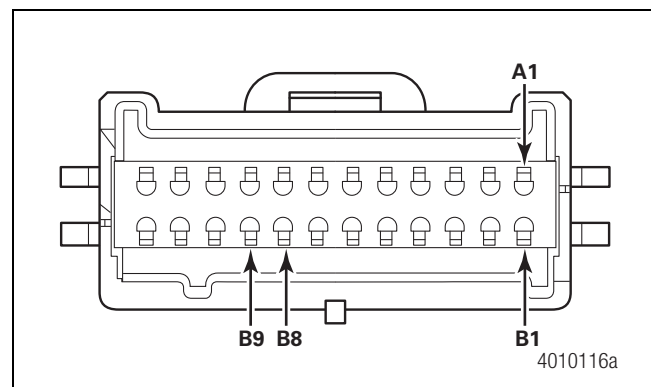

Figure 2.12
1. Disconnect the vehicle side of the LDW connector and measure for voltage from terminal B8 to the ground terminal B9. Figure 2.12.